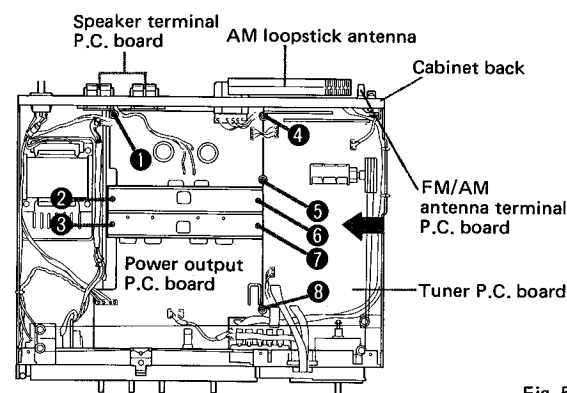

Fig. 5
7. Remove the screws 1 to 8 in Fig. 5.
9. Remove the power output P.C. board backward, and remove the tuner P.C. board in the direction of an arrow shown in Fig. 5.